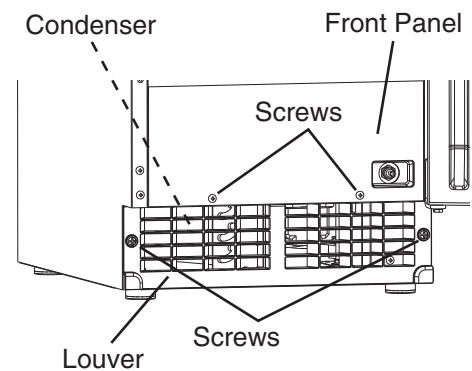

Fig. 11
- 2) Remove the 2 screws securing the front panel, then remove the panel. See Fig. 11.